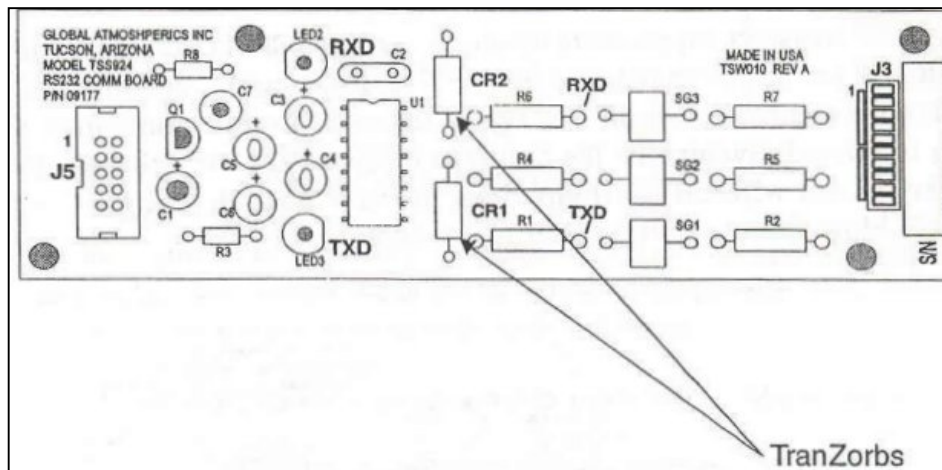

Figure 1-12. RS-232 Comm Board Transient Suppressor locations
- p. On RS-232 Comm Board, verify that the TranZorb transient suppressors CR1 and CR2 are not cracked, broken or charred. Normal failure mode is a short. Replace sensor if devices damaged (Figure 1-12).